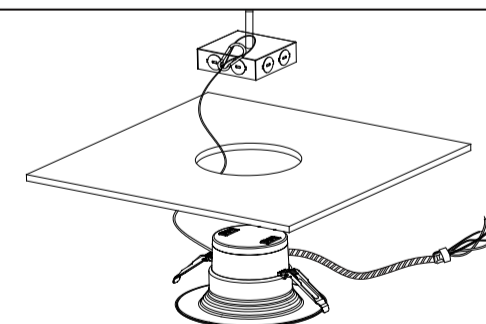

Fig3
**Step 3:** Attach the carabiner safety clip to the existing fixture housing, see Fig3.